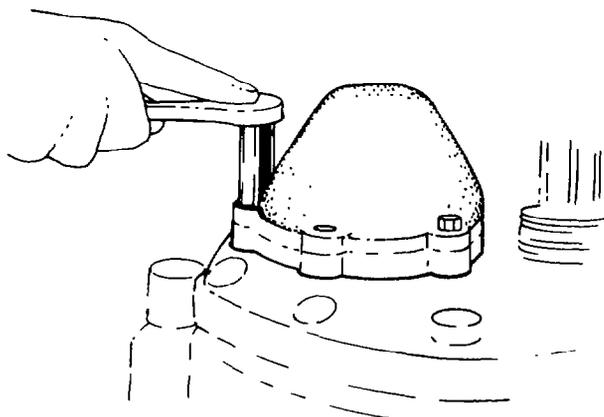

Fig. 218 — Removing Front Drive Shaft Bearing Cover
- Remove the front drive shaft bearing cover, then remove the bearing retaining bolt and clamp plate (see fig. 218).